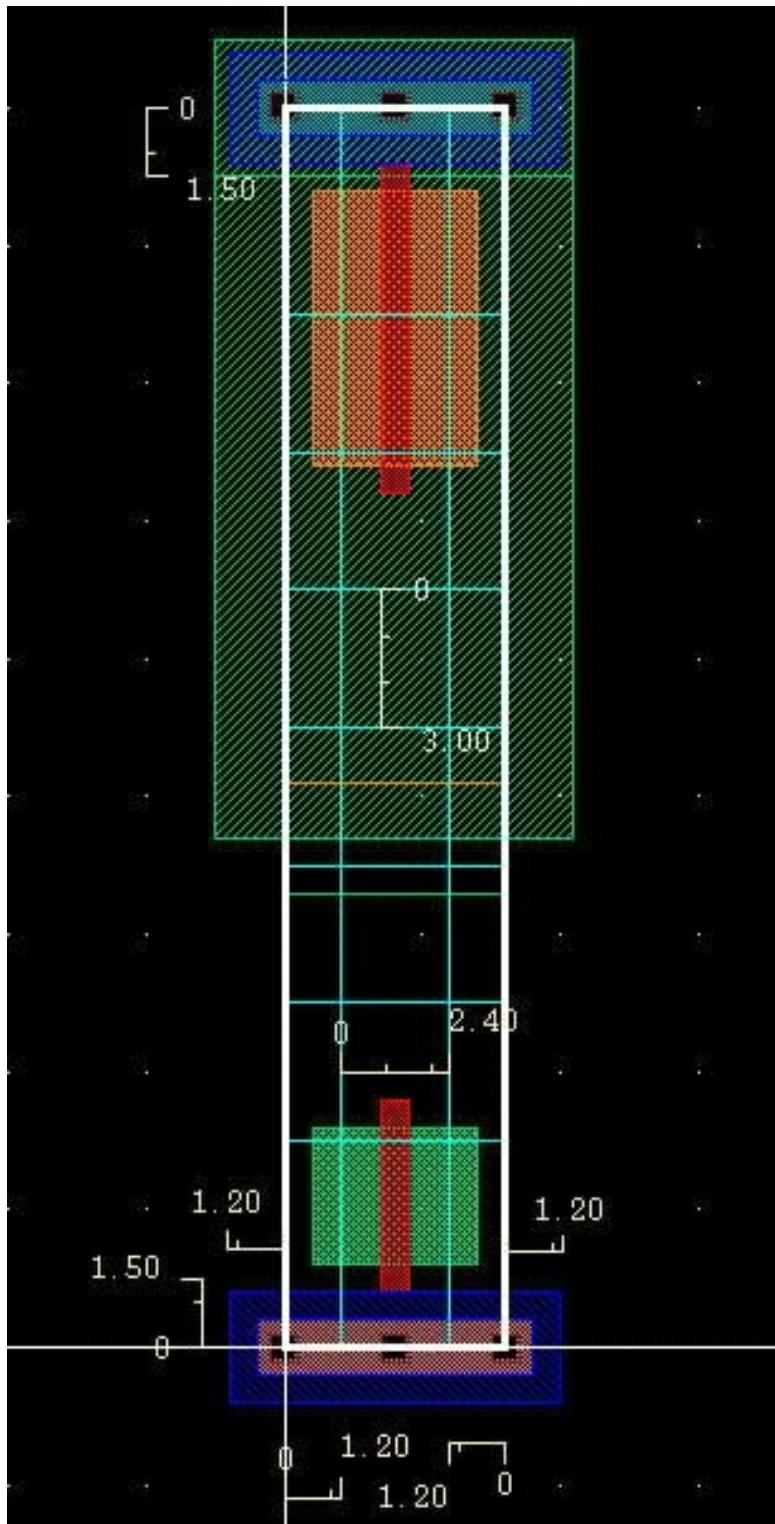

Figure 5.39: A **layout** template showing cell boundary (**prBound** layer)
The notion of a *cell boundary* was used without specific definition in the preceding text. The cell boundary is the rectangle that defines the outline of the cell from the place and route tool's point of view. We have defined our library so that the cell boundary is actually inside of the cell layout geometry so that when the cells are abutted with respect to the cell boundary, they actually overlap by a small amount. The cell boundary is shown in Figure 5.39, but you don't have to draw it by hand. It will be derived during the process of extracting an **abstract** view as described in Chapter 9.
*In order to make sure that there will not be any DRC violations when cells are abutted, it is very important that no geometry on any layers (other than the layers already in the template) falls within 0.6 microns from the left and right of the cell boundary or within the **vdd!** or **gnd!** buses. This rule is in addition to other SC莫斯 Design Rules within the cell and applies even if the DRC of the individual standard cell does not complain. For example, in the layout shown in Figure 5.39, the **nactive** and **pactive** layers are placed  $0.6\mu$  away from the cell boundaries on left and right side. They cannot come any closer to the boundary. Also, in the **layout** view shown, the **pmos** and **nmos** transistor gates (**poly** layer) are placed just touching the **vdd!** and **gnd!** bus inner edges. The gates could go farther away from the bus inner edges but cannot extend into the bus structure. If you need more space than these rules allow, you will have to make your whole cell wider. Each time you make a cell wider, it has to be made wider in increments of  $2.4\mu$ .*
It turns out to make the job of the place and route tool much easier if the connection points to the cell are centered on horizontal and vertical routing pitch dimensions. The grid lines in Figure 5.39 (actually 0-width rectangles of type **wire** in the layout) show the horizontal and vertical routing channels in the cell. We follow offset grid line placement rules where the grid lines are offset by half of the vertical and horizontal grid line pitch from the origin. Thus the vertical grid lines start at  $1.2\mu$  from the y-axis and are spaced  $2.4\mu$  thereafter. Similarly, the horizontal grid lines start at  $1.5\mu$  from the x-axis and are spaced  $3.0\mu$  thereafter. However it should be noted that the first and last horizontal grid lines cannot be used, as any geometry placed on them extends into the **vdd!** or **gnd!** bus violating the rules defined above.